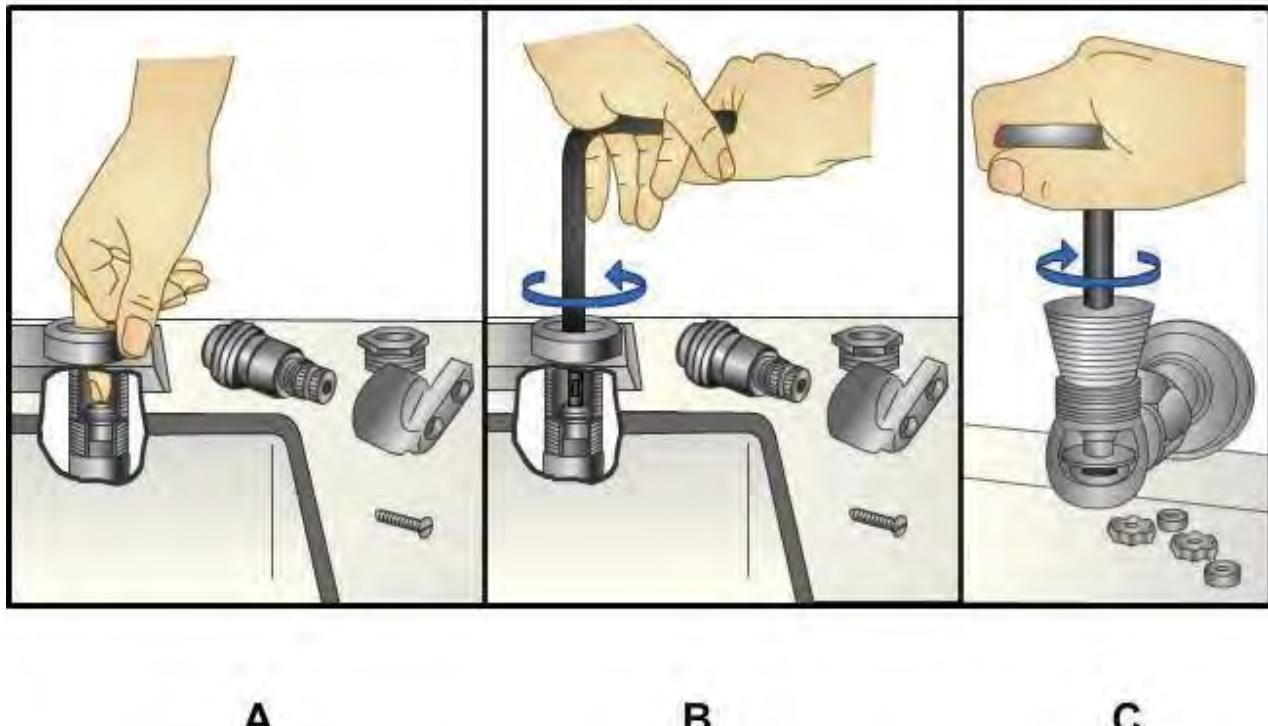

Figure 42 — Inspecting, removing, and refacing faucet seats.
4. If the brass screw is in poor condition, replace it with a new one (*Figure 42, View A*).
5. Examine the valve seat and repair or replace it with a new one (*Figure 42, View B*), if necessary, before replacing the spindle; otherwise, a new washer provides adequate service for only a short time.
6. Reface or ream solid seats (*Figure 42, View C*) with a standard reseating tool consisting of a cutter, stem, and handle. Rotate the tool with the cutter centered and held firmly on the worn or scored seat. Take care to prevent excessive reaming. Remove all grinding residue before reassembly. A solid seat can be replaced with a renewable seat by tapping a standard thread into the old solid seat and inserting a renewable seat.